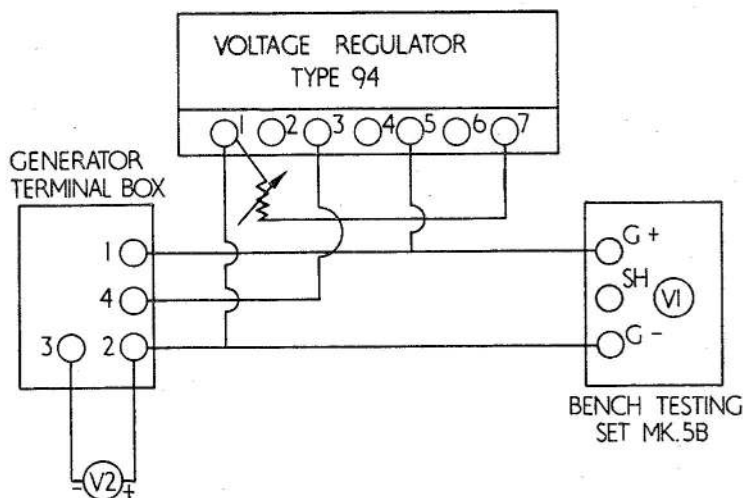

Fig. 4. Test circuit diagram
31. The generator should be connected up as shown in the test circuit diagram, fig. 4. Note the external trimmer resistor connected between terminals 1 and 7 on the voltage regulator, and millivoltmeter V2 connected to terminals 2 and 3 on the generator with polarity as shown. Voltmeter V1 should be on the 0-40V range. The fixed load resistor on the test set should be switched out and the variable load rheostat adjusted to the minimum load position.